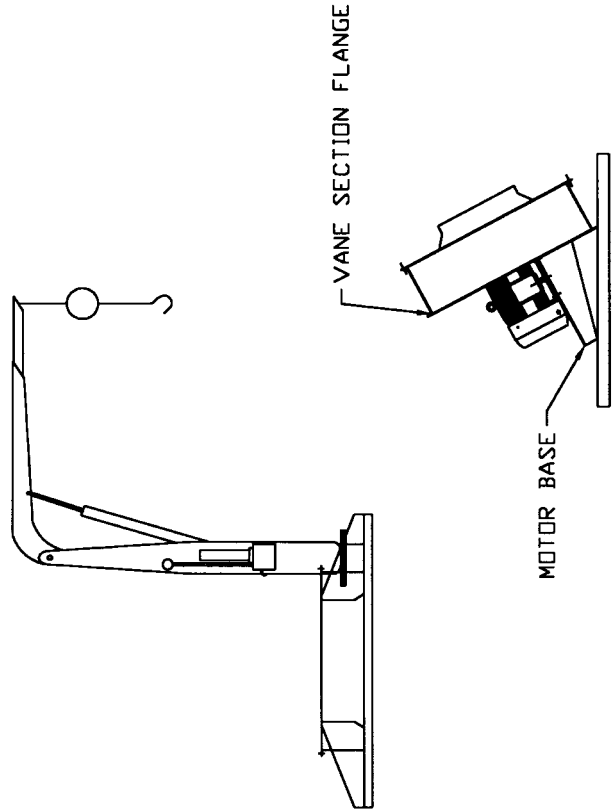

FIGURE 7
- 15) Lower the fan and rest it on the motor base and the vane section top flange. The bottom of the motor should be facing the roof. (Figure 7)
- 17) Lower the fan and rest it on the motor base and the vane section top flange. The bottom of the motor should be facing the roof. (Figure 7)